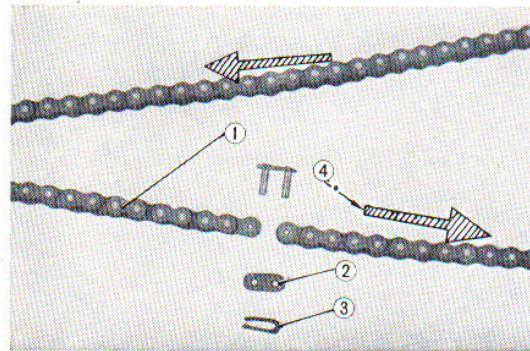

Fig. 3.10 Drive chain joint clip direction
- d. Make sure the drive chain joint link clip is facing in the correct direction, the opening opposite to the direction of chain movement. (Refer to Fig. 3.10)